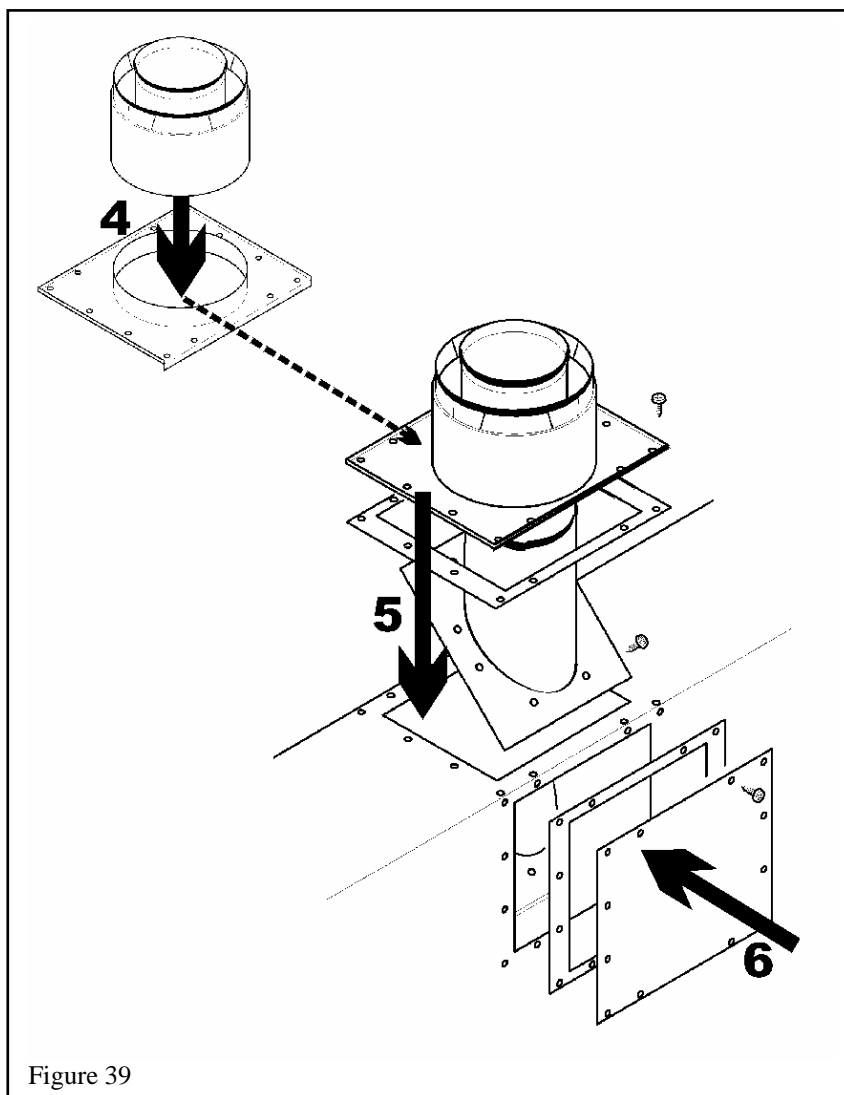

Figure 39
4. To make sure that the collars are axially aligned, fit the Dura-vent adapter #817VAK over the outer vent collar. See figure 39.
5. Position the inner collar and seal vertically inside the top of the appliance. Drop the outer collar with adapter over the inner collar to ensure alignment. Secure the inner collar with 8 screws and the outer collar with 12 screws. See figure 39.
6. Fit the plate and seal (which was previously removed from the top) to the back of the appliance with 12 screws. See figure 39.